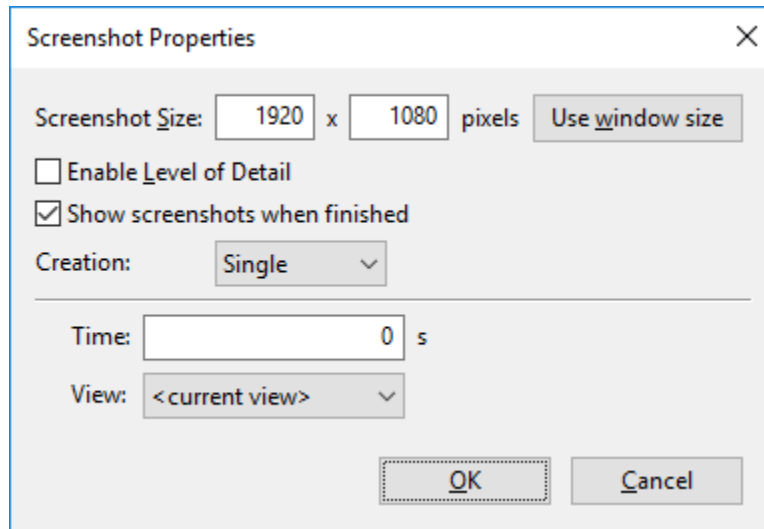

Figure 28. Screenshot dialog
5. The **Screenshot** dialog will appear as shown in Figure 28.